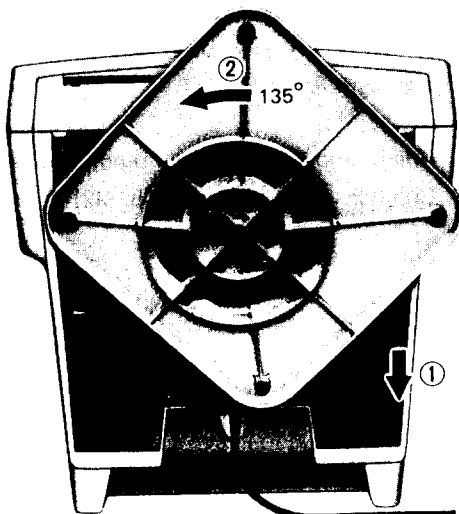

Figure 14
- Slide the swivel down. (Figure 14)
- Turn the swivel 135° counter-clockwise. (Figure 14)